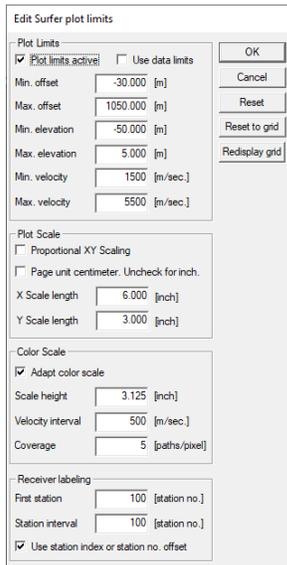

Fig. 19 (left) : Grid/Surfer plot Limits . Edit as shown and click OK .
- edit *Grid|Surfer plot Limits* as in Fig. 19